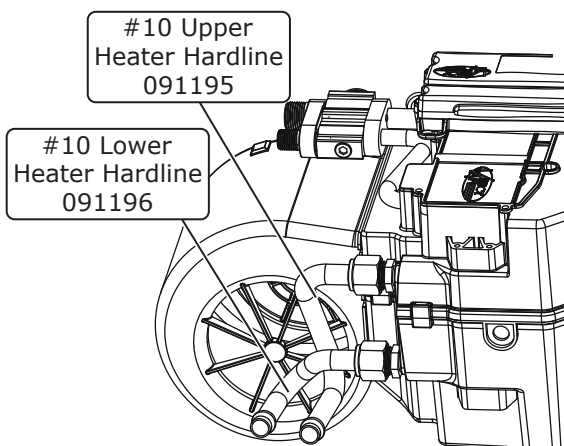

Figure 5
4. With properly lubricated O-rings (See Lubricating O-rings, Page 12), install the #10 upper and lower heater hardlines as shown in Figure 5, below. Leave loose at this time.